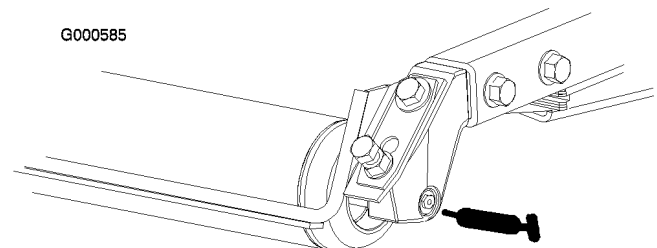

Figure 29
- Rear roller bearings (2 per cutting unit) (Figure 29)
Note: The flush fittings on the rollers (Figure 29) require a grease gun nozzle adapter. Order Toro Part No. 107-1998 from your Authorized Toro Distributor.